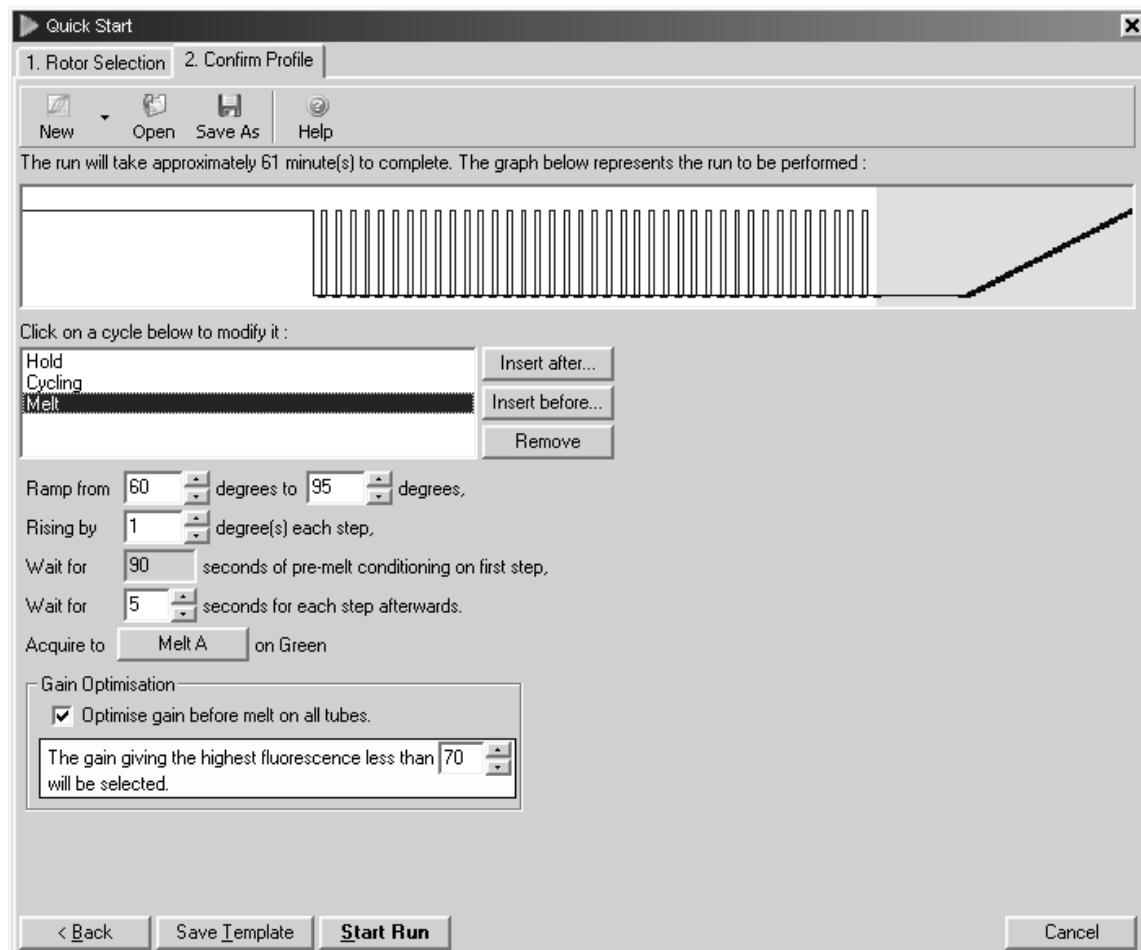

Figure 3. Melting curve analysis. After PCR is completed, melting curve analysis can be performed to check the specificity of the reaction.
7. Optional: Perform melting curve analysis of the PCR product(s) to verify their specificity and identity (see Figure 3, page 17).